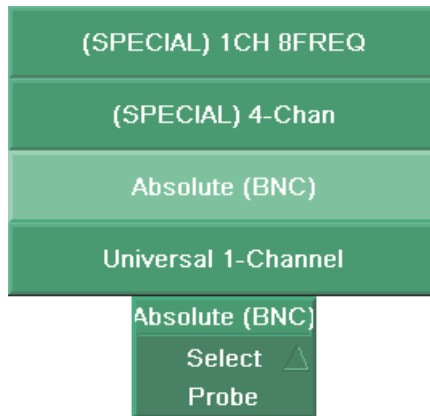

Figure 3-1 Available choices in the Select Probe parameter
3. Select **Probe & Part > Settings > Select Probe**, select the appropriate choice in the list, and then press the Accept key to confirm (see Figure 3-1 on page 48).